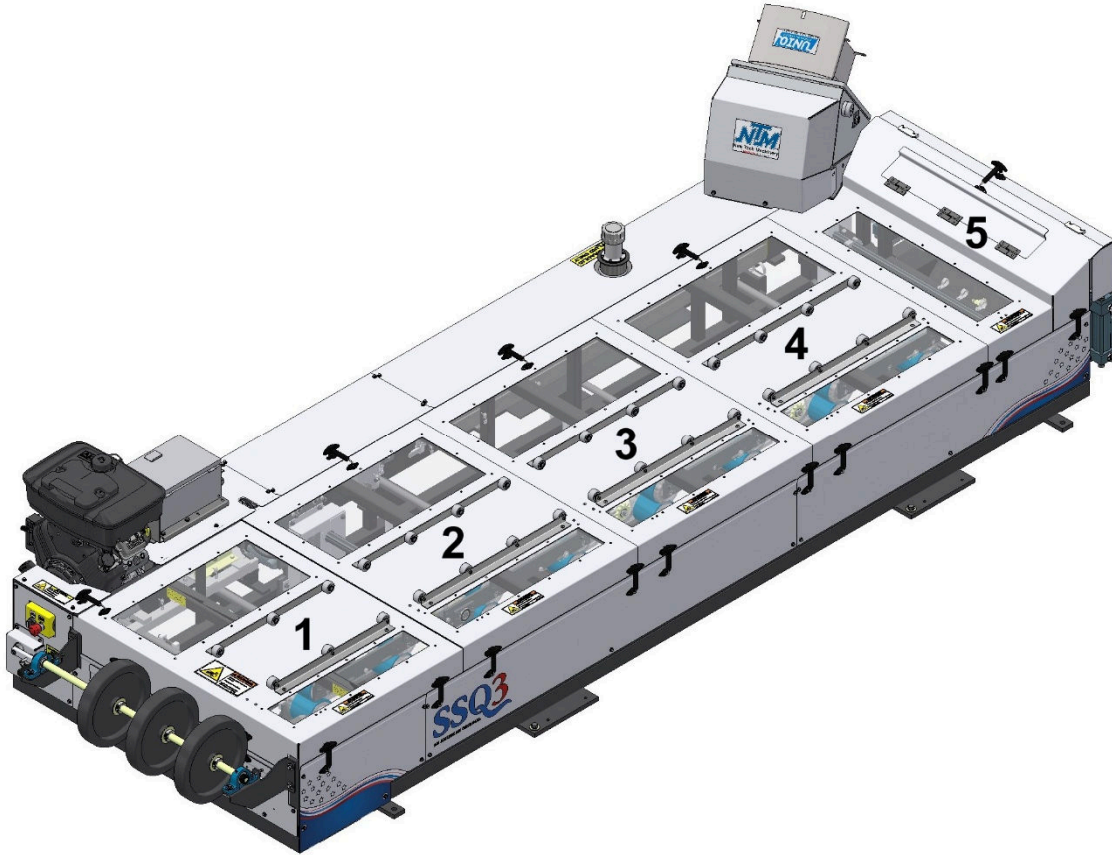

Figure 53: Top Cover Removal
1. Remove Top Covers #1, 2, 3, 4, and 5 (Figure 53) and the shear guard and set them aside.
1. Remove Top Cover #1, 2, 3, 4, and 5 (see Figure 53 on Page 64) and set aside.